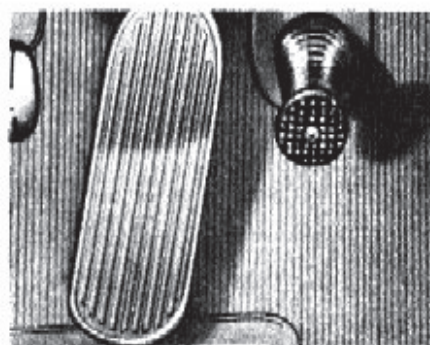

Fig. 9—Starter and Accelerator Pedals
**Starter Pedal.** The starter pedal is located near the center of the toe board to the right of the accelerator pedal (fig. 9). Depressing this pedal with the foot engages the starting motor pinion with the teeth in the
**Accelerator Pedal.** The accelerator pedal, located to the left of the starter pedal (fig. 9), is used to open and close the